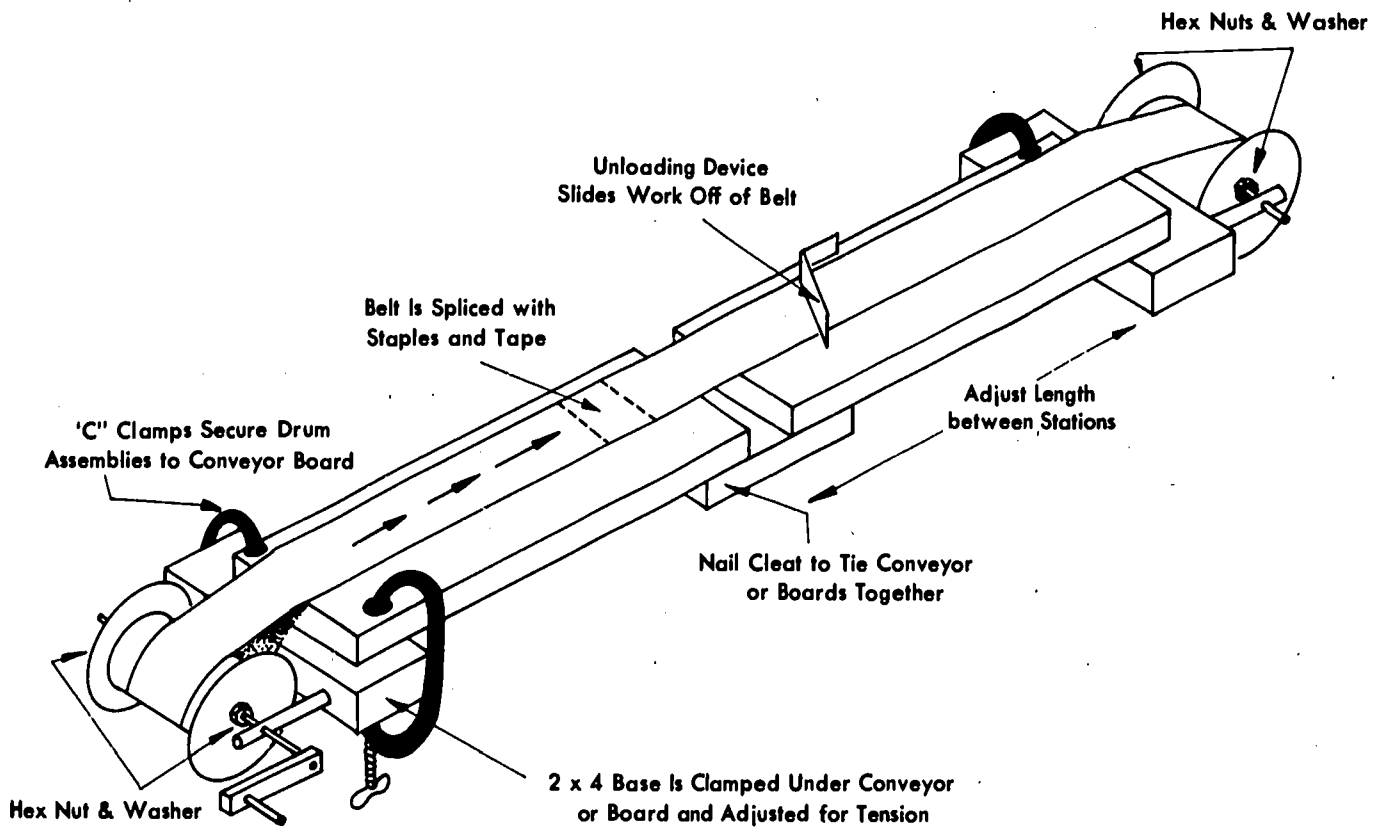

Fig. 23-1. Conveyor Belt Setup
2. Follow the instructions on the drawings for making and setting up the belt assembly. See Fig. 23-1 and 2. Share equipment.